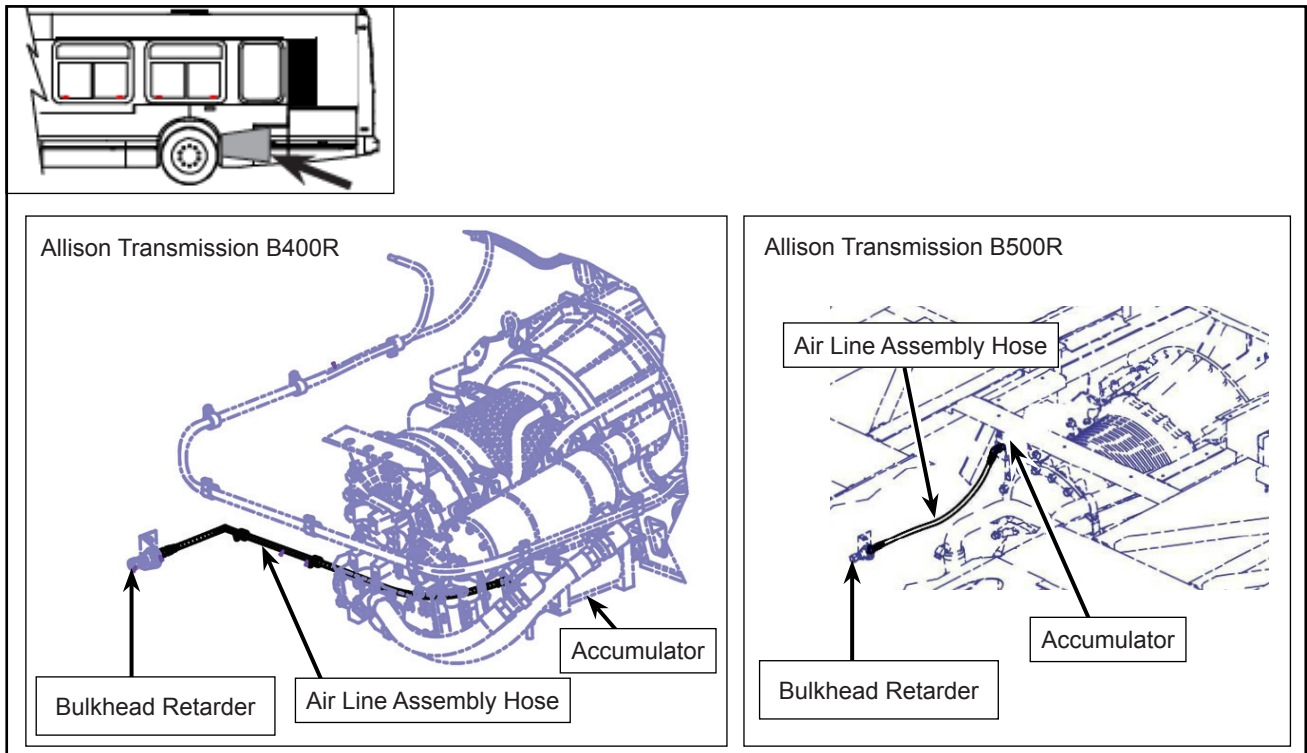

Figure 2 - Typical View of Air Line Assembly
- 1.4. Locate the retarder air line assembly in 60-foot vehicle (Allison Transmission B500R) or 40-foot vehicle (Allison Transmission B400R) (see Figure 2).